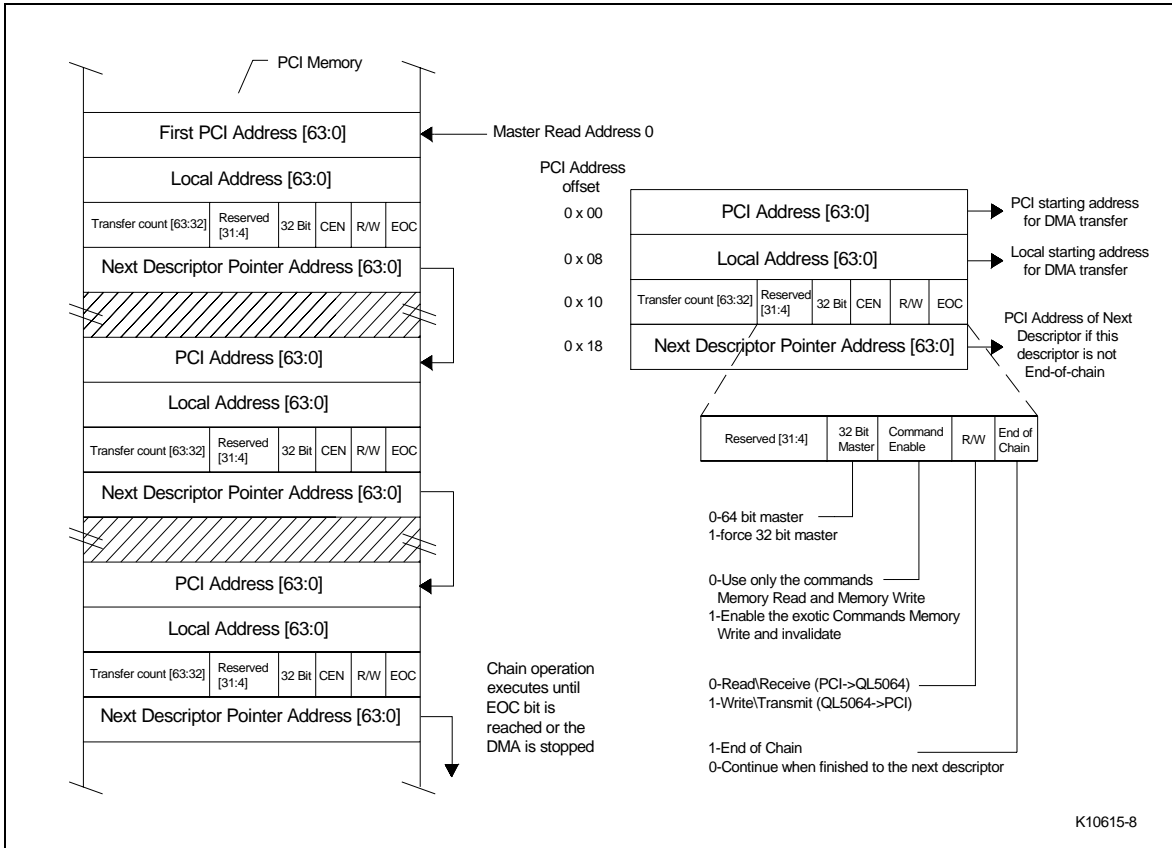

Figure 8 – DMA Chain Mode Descriptors
1. Write the chain mode DMA descriptor tables to PCI memory. The format of the Chain Mode DMA descriptor tables is given in Figure 8. The requirements for Local Starting Address and Transfer Count in the chain descriptors are the same as for non-chain mode DMA. If the host is a "Big-endian" machine, it will be necessary to reorder the descriptor data, as described in Section 5.3 above. The usual reordering required is byte order within 64-bit words. However, this may vary depending on the details of the system implementation.